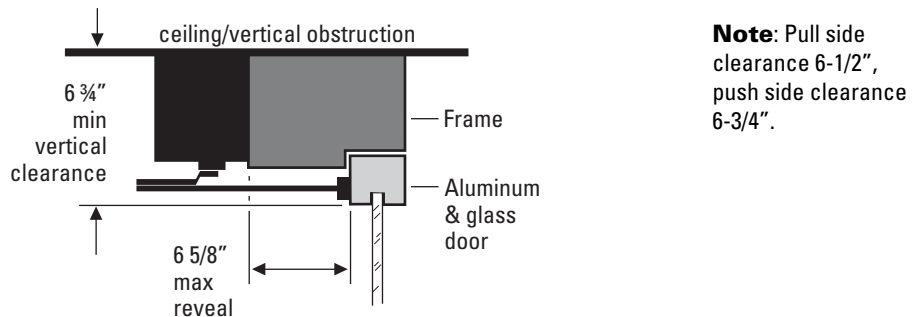

Figure 1.10 Side cut-away view of an aluminum and glass door showing the maximum reveal. Also this view shows the minimum vertical head clearance.
4. Make sure that a minimum clearance height of 6 $\frac{3}{4}$ " (172 mm) from ceiling to door mounting surface is unobstructed. See Figure 1.10 on page 1-13.